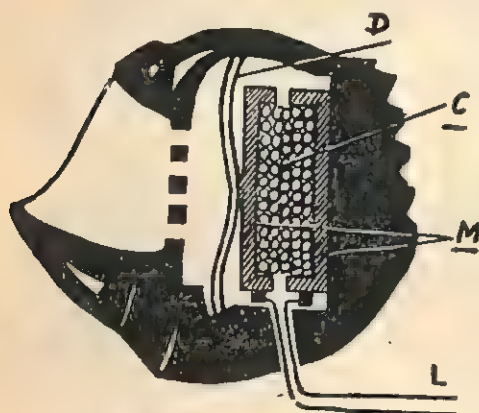

Fig. 12.26. Microphone.
(1) The electrical resistance of a lump of carbon granules decreases with increasing pressure on them.
(2) **Microphone.** It is a device to convert sound energy into electrical energy. Microphone is also called mouth piece or transmitter when used in a telephone circuit. The popular type of modern microphone is a carbon granule microphone. This microphone consists of a large number of carbon granules (C) packed between carbon plates (M) as shown in Fig. 12.26. A thin and light metal diaphragm (D) is clamped to the plate (M). Two metal terminals (L) are attached to the two plates (M) for outer connections.